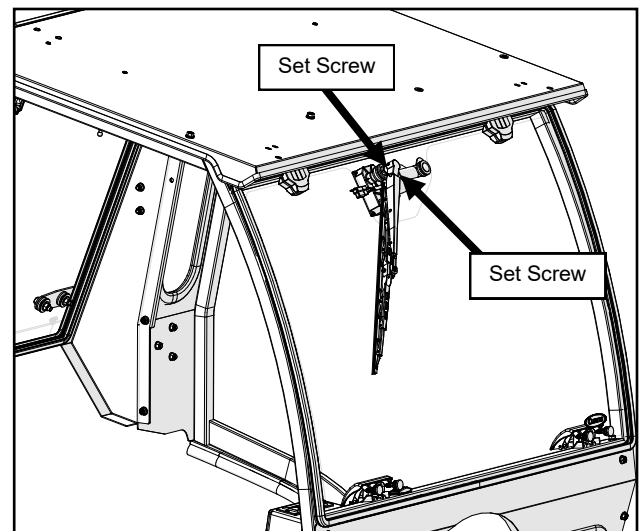

Fig. 20.3 (Wiper Arm and Blade)
20.3 Install the wiper arm onto the wiper motor so that the wiper is positioned as shown in figure 20.3. Tighten the set screws.